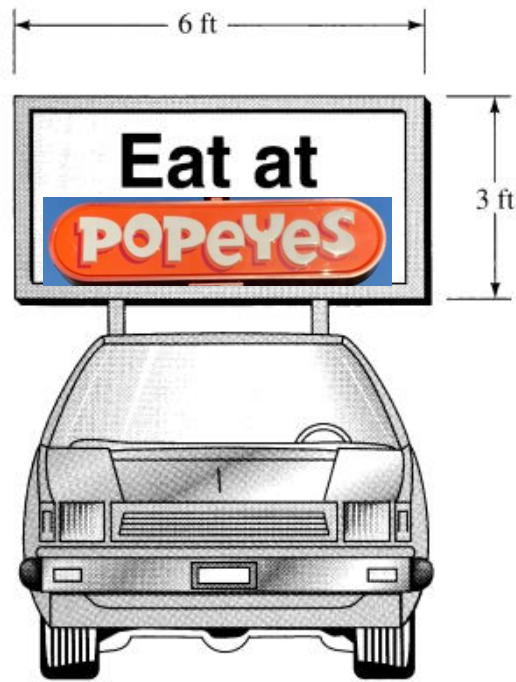

Fig. P7.88
7.88 A pickup truck has a clean drag-area $C_D A$ of 35 ft^2 . Estimate the horsepower required to drive the truck at 55 mi/h (a) clean and (b) with the 3- by 6-ft sign in Fig. P7.88 installed if the rolling resistance is 150 lbf at sea level.